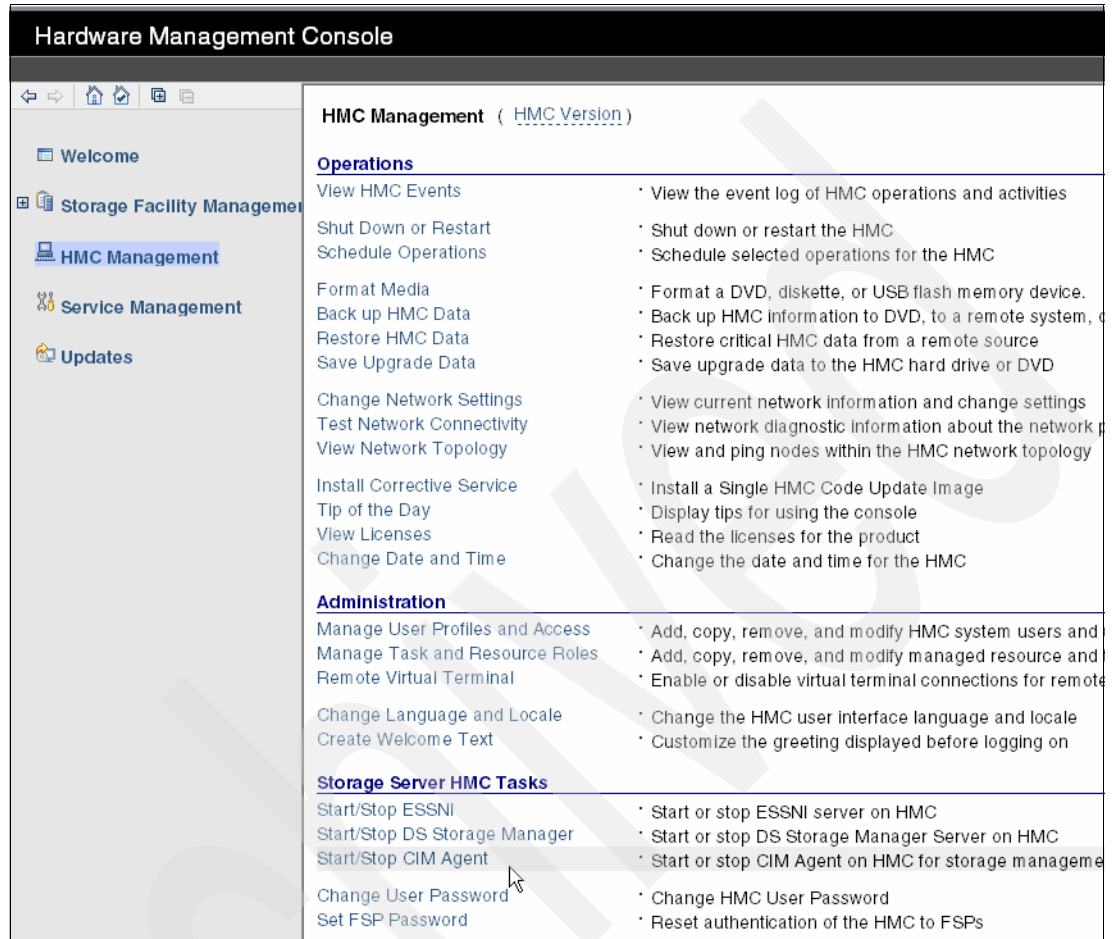

Figure 12-10 HMC WUI: Start/Stop CIM Agent
3. Select **HMC Management** and under the Storage Server HMC Tasks section, click **Start/Stop CIM Agent** (Figure 12-10).